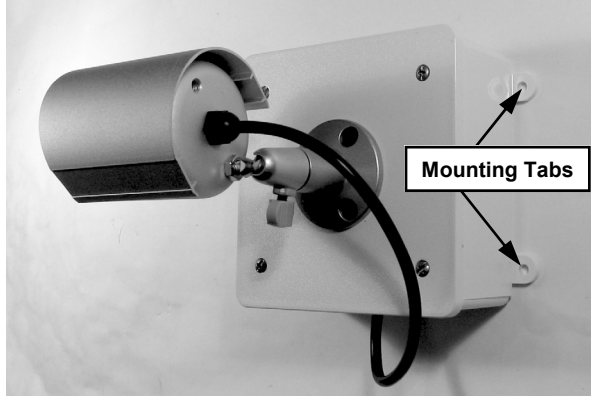

Fig. 8: Create loop when wall mounting
9. The camera enclosure can be mounted on a wall (see Fig. 8) or a ceiling (see Fig. 9). If mounting on a wall,
be sure to mount the enclosure with the *threaded hole plug positioned down* to create a drainage hole should any moisture enter the enclosure. In addition, allow a short length of the camera cable to exit the enclosure creating a short loop as shown in Fig. 8.